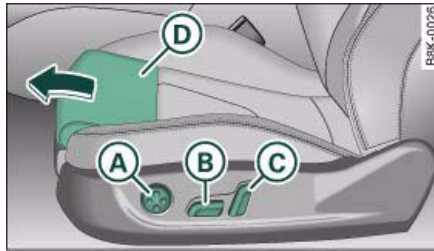

Fig. 71 Front seat:
- Press switch (B) ⇒ fig. 71 forwards or backwards.